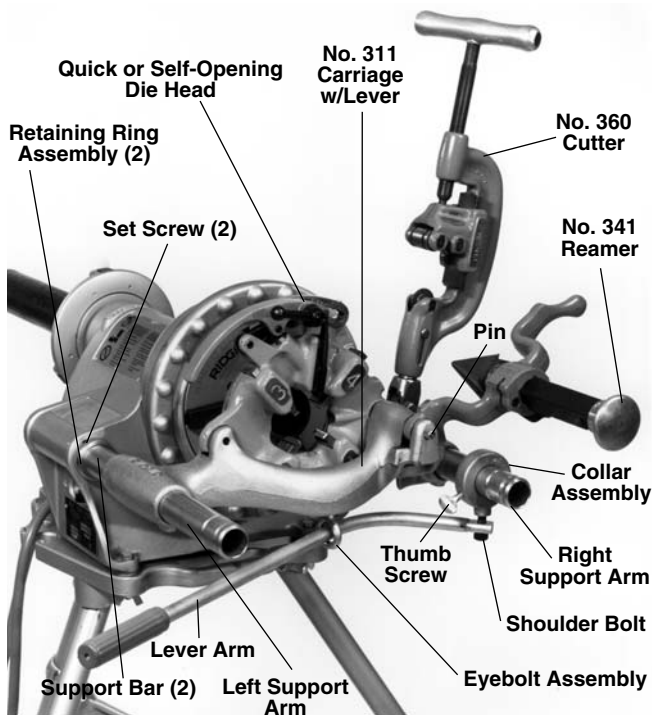

Figure 4 – No. 300 Power Drive with 311A Carriage, 360 Cutter, 341 Reamer and Die Head
1. Inspect the support bars to insure they are forward and secured by two (2) retaining ring assemblies. Retaining ring set screws must be tight (Figure 4).
2. Secure eyebolt to the 311A Carriage. Slide lever arm through the eyebolt assembly and secure to collar assembly with shoulder bolt (Figure 4).
4. Install the 360 Cutter and 341 Reamer by inserting arm in the slot provided in the carriage and secure with the drive pin (Figure 4).